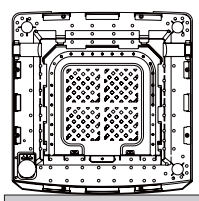

Figure 1
1. Please lean the washing machine gently down on soft items, such as towel, cloth, blanket, etc. (as indicated in Figure 1)